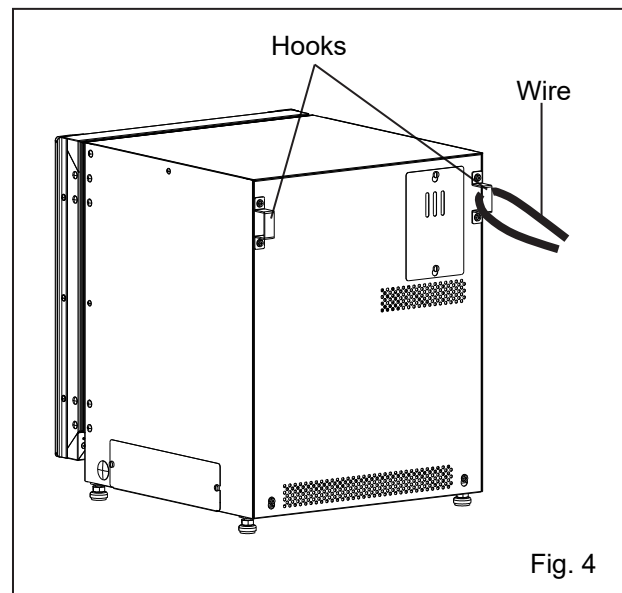

Fig. 4
- When stacking incubators, fix the upper incubator to the wall by passing a wire or chain through the hooks on the back side of the unit to prevent falling over (Fig. 4).